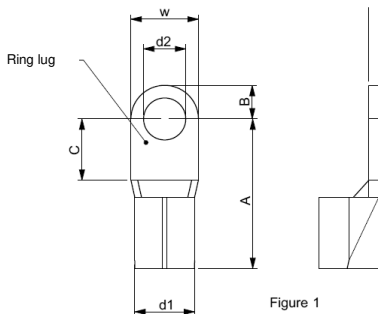

Figure 1
- Ring lug is required for main circuit terminal connection, please refer to Figure 1 for the specifications of the ring lug.